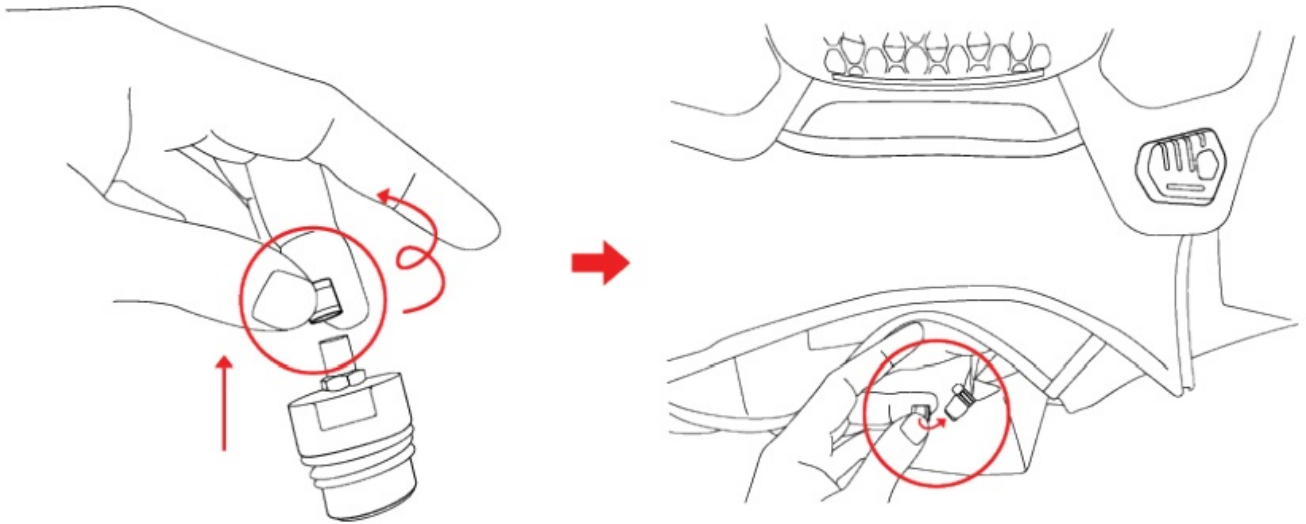

Figure 13: How to close the Deflation Valve.
First of all, the User must make sure to close the Deflation Valve positioned on the Airbag (to know the positioning of the Deflation Valve, refer to the "Deflation Valve Area" indicated in the User Manual supplied with the System). To close the Deflation Valve, it is necessary to unscrew the Cap from the Adapter Valve for the Airbag Integrity Test (2) and screw it directly onto the Deflation Valve to prevent air from escaping during the test (Figure 13).